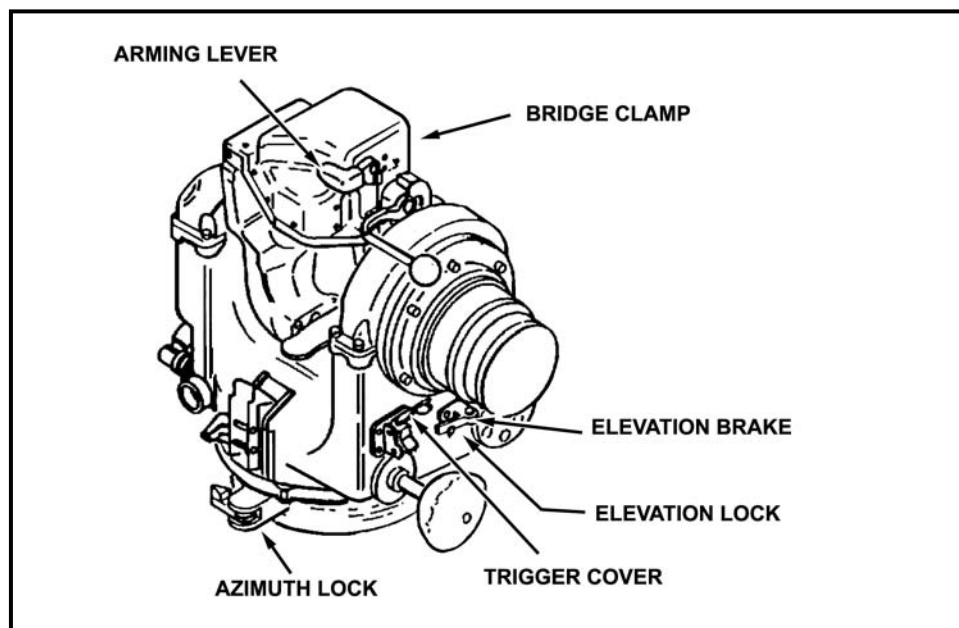

Figure 3-14. Trigger cover, arming lever, elevation lock, and azimuth lock.
(1) If the missile fails to launch after one minute, he closes the trigger cover, lowers the arming lever and locks the elevation lock and the azimuth lock, ensuring that the launch tube is locked in the 8-degree down position (Figure 3-14).